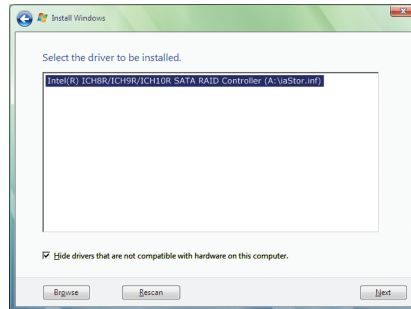

Figure 6
When a screen as shown in Figure 6 appears, select **Intel(R) ICH8R/ICH9R/ICH10R/DO SATA RAID Controller** and click **Next**.